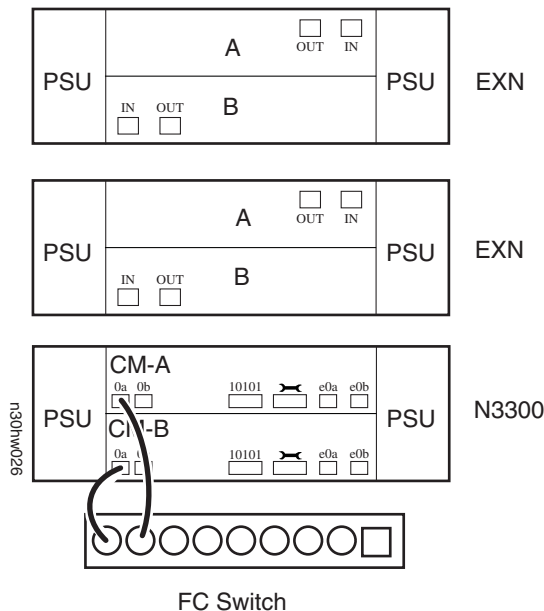

Figure 3. Cabling the system to a Fibre Channel switch
1. As shown in Figure 3, cable onboard port 0a of the top controller module (CM-A) to a port on the Fibre Channel switch.
2. As shown in Figure 3, cable onboard port 0a of the bottom controller module (CM-B) to a port on the Fibre Channel switch.